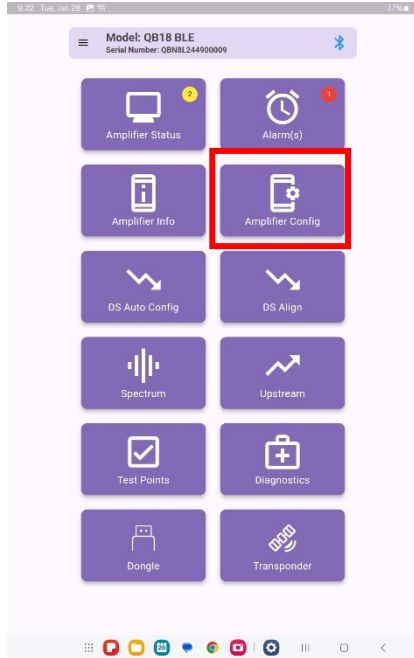

Figure A- 13: Amplifier Config Tile
3. From the Home screen, select the Amplifier Config Tile Figure A-13.